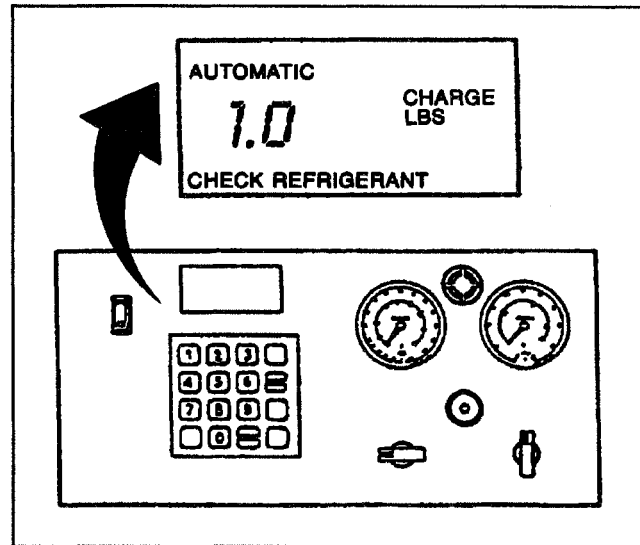

Figure 24—Unsuccessful Charging
1. If the transfer is too slow because the pressure in the unit's tank and the vehicle A/C system are about the same, the unit will emit an audible signal and the display shows the weight remaining for transfer (Figure 24).